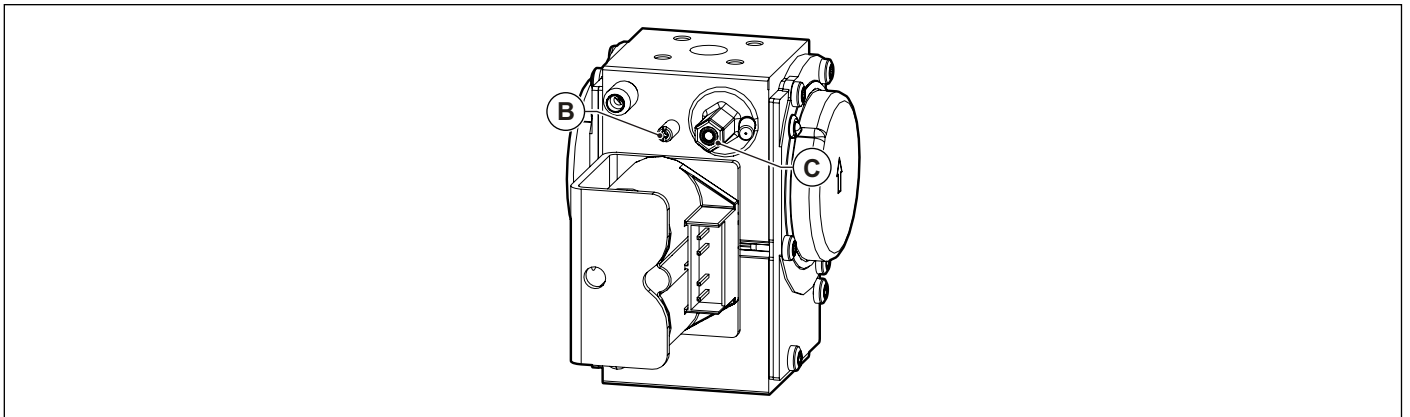
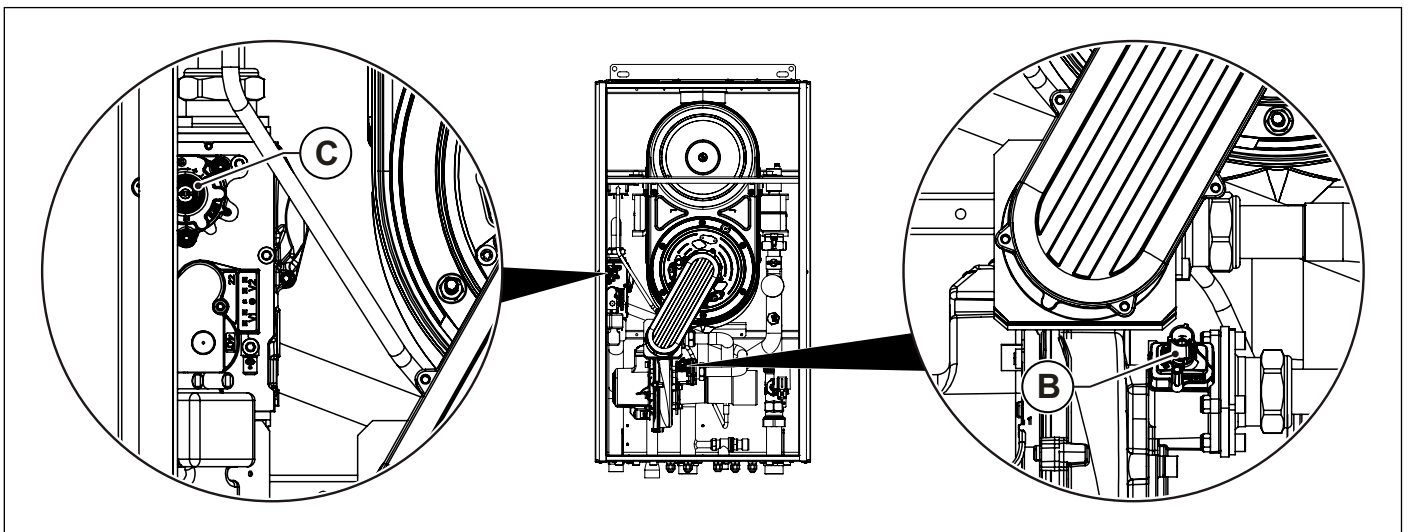

Fig. 47 Adjusting CO2 value KR 85 - KR 120
Fig. 48 Adjusting CO2 value KR 150
- Set flue gas CO2 content by turning the ratio adjuster **B** (see Fig. 47 Adjusting CO2 value KR 85 - KR 120 and Fig. 48 Adjusting CO2 value KR 150) and ensure that reading falls within the limits of Tab. 1 Adjustment specifications KR 85 and of Tab. 2 Adjustment specifications KR 120 and of Tab. 3 Adjustment specifications KR 150.
- Set flue gas CO2 content by turning the offset control **C** (see Fig. 47 Adjusting CO2 value KR 85 - KR 120 and Fig. 48 Adjusting CO2 value KR 150) and ensure that reading falls within the limits of Tab. 1 Adjustment specifications KR 85 and of Tab. 2 Adjustment specifications KR 120 and of Tab. 3 Adjustment specifications KR 150.